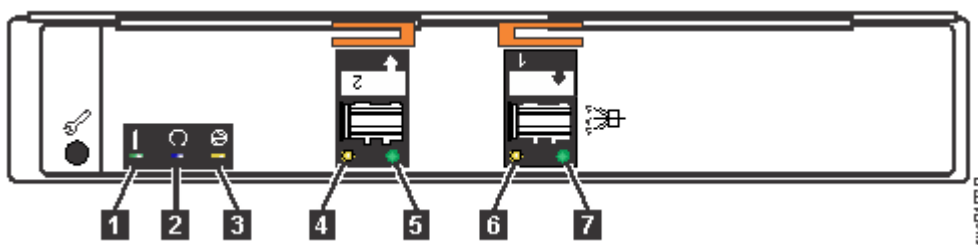

Figure 140. Expansion canister
An expansion canister provides SAS connectivity between the 5U expansion enclosure and control enclosure system. If either of the two expansion canisters has a failure, the other expansion canister assumes the full I/O load. Figure 140 on page 193 shows the features of an expansion enclosure.
3. Release the lower cable management arm to swing it out of the way, as described in Figure 140 on page 193.